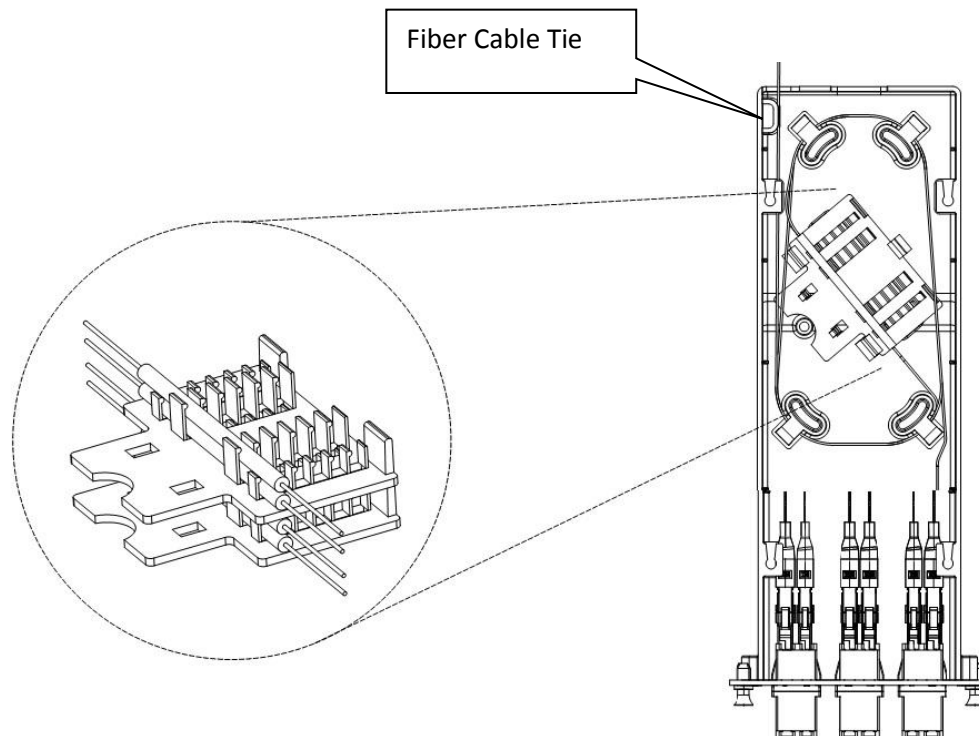

Fig.1
- That Molex KFR-00008 45mm Fusion Splice Protectors or equivalents are used to splice the pigtail to the incoming fiber; Molex AFR-00337, 12 Fiber Fusion Splice Holders are fitted firmly to the cassette housing and the KFR-00008 45mm Fusion Splice Protectors are carefully stacked as shown below. (Fig.1)
- To use Molex Pigtails. These are generally 1.0 meters in length. This allows for trimming to length prior to splicing. Any excess fiber required should be routed as shown below. (Fig.1)
- To route excess incoming fiber as shown below. (Fig.1)
- The incoming cable is tied down to the cassette housing by using the Fiber Cable Tie Down Point as shown below. (Fig.1)